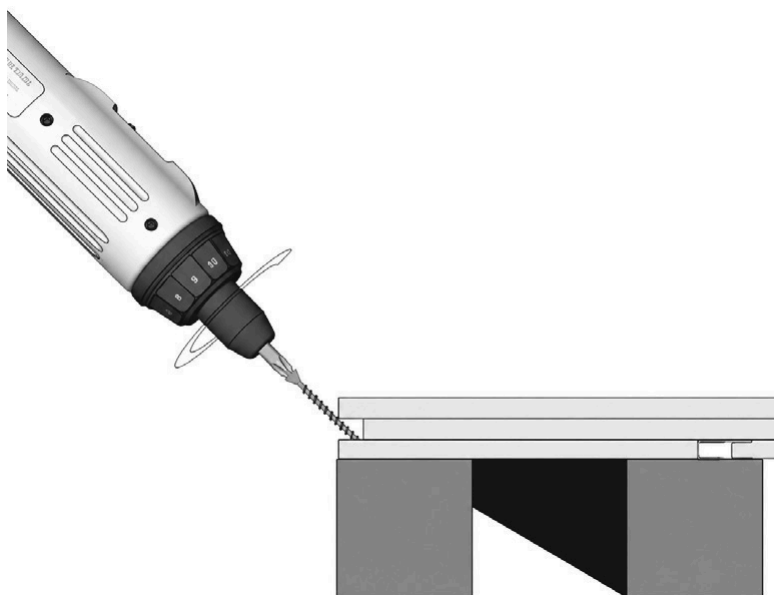

FIG. 16 – OUTER BOTTOM EDGE SCREWED AT AN ANGLE
- 05 With the picture-frame board in place, screw through its outer bottom edge at an angle, securing it to the joist (fig. 16). Pre-drill pilot holes in the deck boards 2 mm wider than the screw shank; do not over-drive screws into the deck boards, to avoid the material splitting.